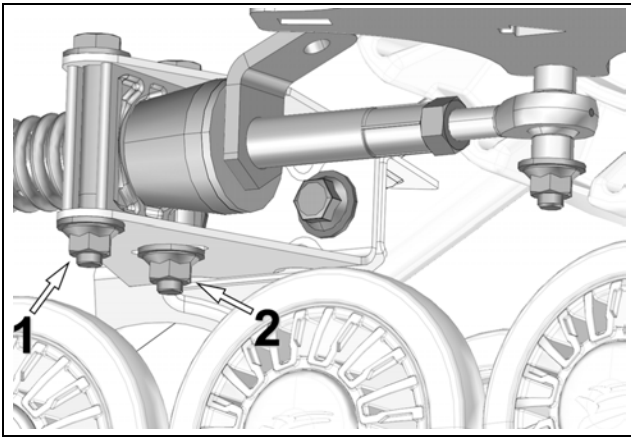

Figure 16
- Re-tighten anti-rotation bracket bolts (1) and (2) to 50 N•m [37 lb-ft] of torque. See Figure 16.